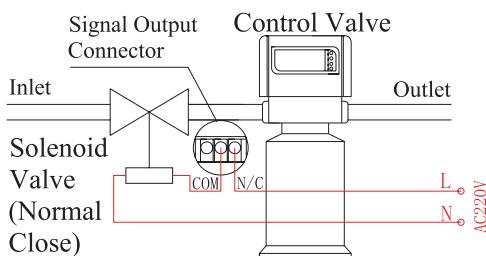

Figure 3-2 Wiring of
- **Method1:** the wiring refers to Figure 3-2. It uses the two wiring terminals(N/C, Normal Connection terminals) of the Signal Output Connector (**CN07**) to control inlet solenoid valve.
As is shown in Figure 3-2, when the inlet pressure is high, it is necessary to install a solenoid valve in the inlet pipe in order to make the valve switch work properly. When the valve is at position of Service, Backwash, Brine & Slow Rinse, Fast Rinse and Brine Refill, the solenoid valve is powered on and open. When the valve is switching, the solenoid valve is powered off and closed, so no high pressure water flows into the valve to make the valve switch properly. It could prevent the problem of mixing water and water hammer when the valve is switching.